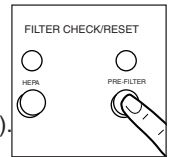

FIG. 4
5. Turn unit ON and RESET filter monitor(s) for filter(s) replaced by pressing the appropriate filter reset button(s) for a 5 second delay (Fig. 4).